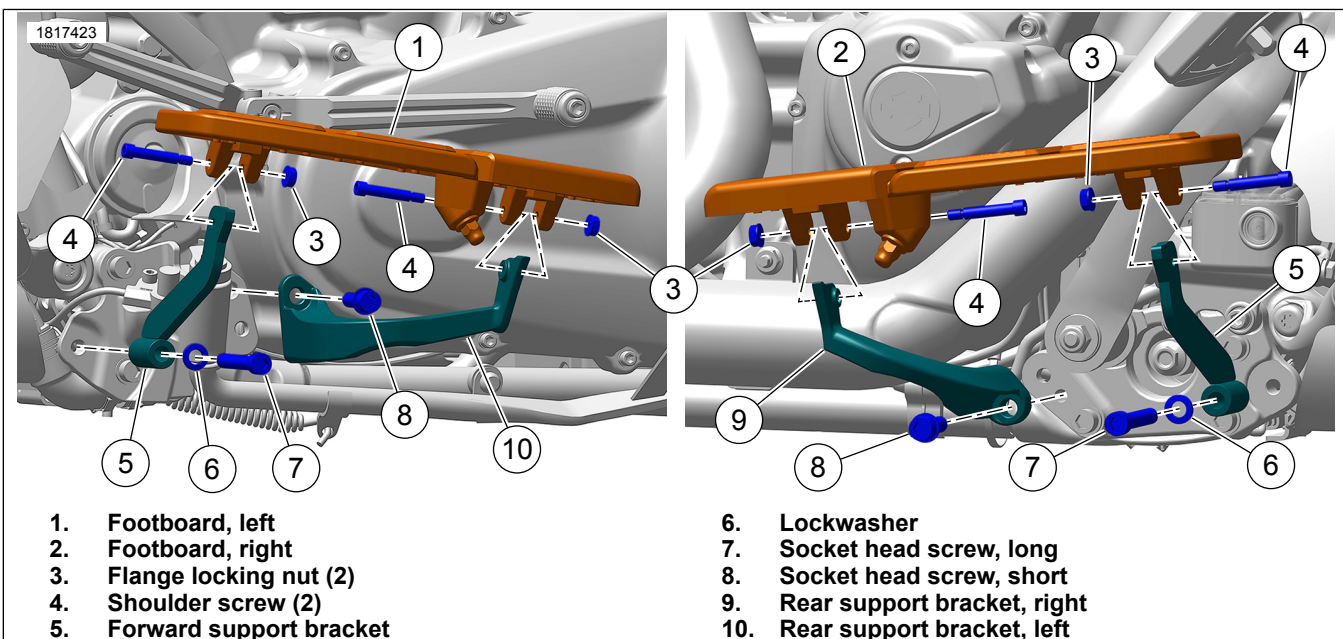

Figure 2. Rider Footboards (quantities shown are for each footboard)
1. See Figure 2. Remove flange locking nuts (3) and shoulder screws (4) from underside of footboard (1, 2). Retain locking nuts.
3. Remove socket head screw (7), lockwasher (6) and front supports (5) from both sides. Clean the threads and retain socket head screws.
1. See Figure 2. Apply threadlocker to threads of screw (7).
3. See Figure 2. Install lockwasher (6) and socket head screw (7). Tighten.
4. See Figure 2. Install left footboard (1) onto Original Equipment (OE) forward brackets (5), shoulder screws (4) and OE flange nuts (3) removed earlier. Tighten.
5. See Figure 2. Install right footboard (2) onto OE forward brackets (5), shoulder screws (4) and OE flange nuts (3) removed earlier. Tighten.